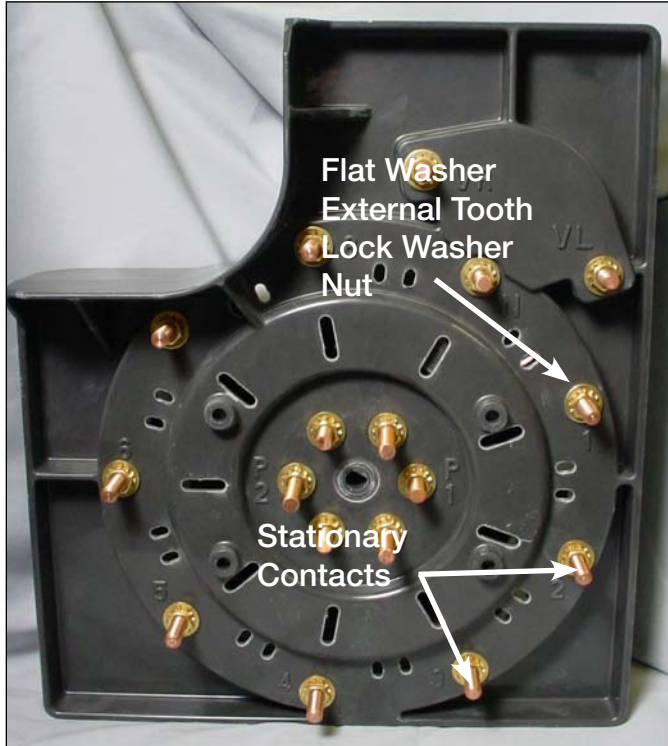

Figure 16.
1. Use a 9/16 wrench or a deep well 9/16 socket and ratchet, loosen and remove the brass nut on the stationary contact that is to be removed, remove the external tooth lock washer and brass flat washer. See Figure 16.